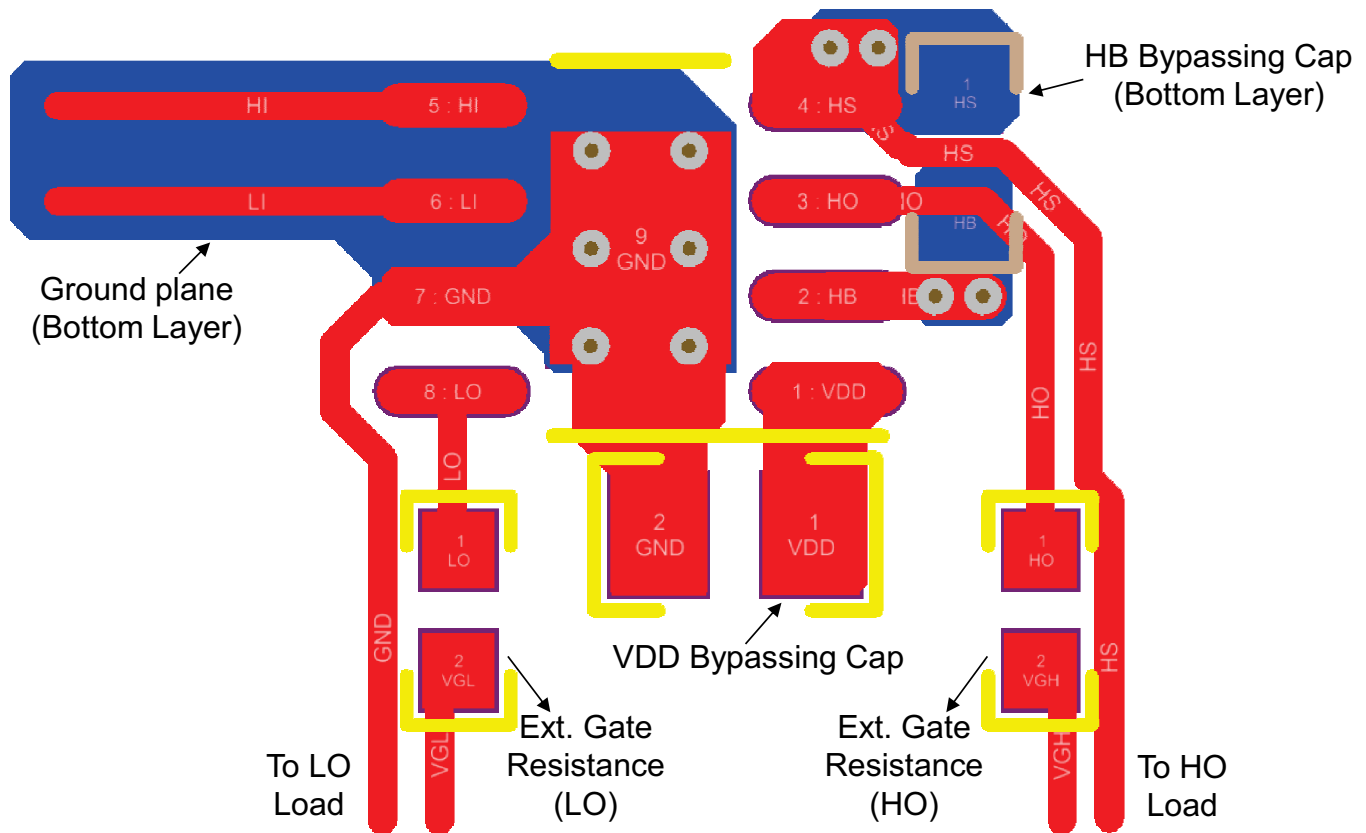

Figure 23. UCC27211A-Q1 PCB Layout Example
- Locate the  $V_{DD} - V_{SS}$  and  $V_{HB} - V_{HS}$  (bootstrap) capacitors as close as possible to the device (see Figure 23).